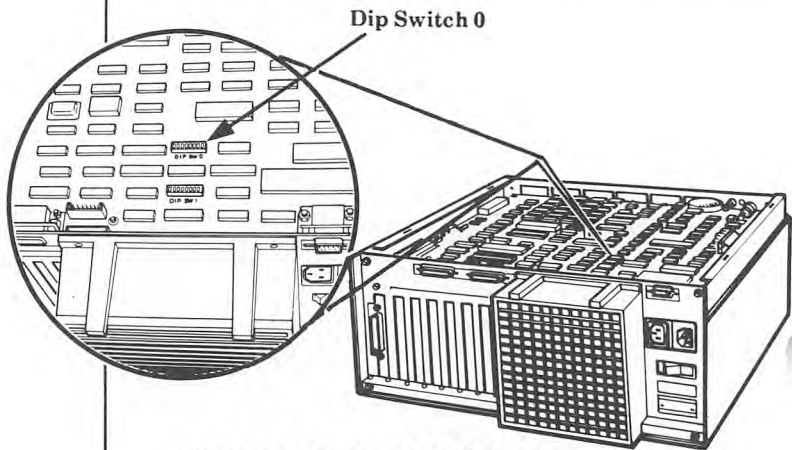

Figure 2-8. Location of DIP Switch 0.
12. Locate DIP Switch 0 on the processor board. See Fig. 2-8.